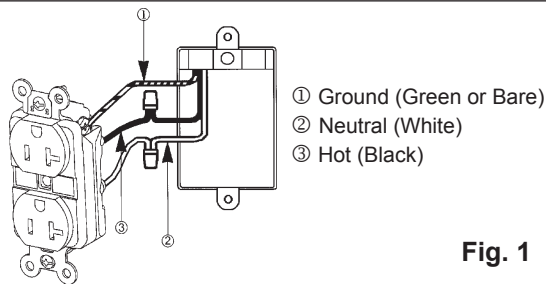

Fig. 1
- The green grounding terminal must be connected to an equipment grounding conductor or a grounded metallic Raceway (See Fig. 1). Tighten green grounding terminal screw to 9-12 lb·in (1.0 - 1.4 N·m) torque.